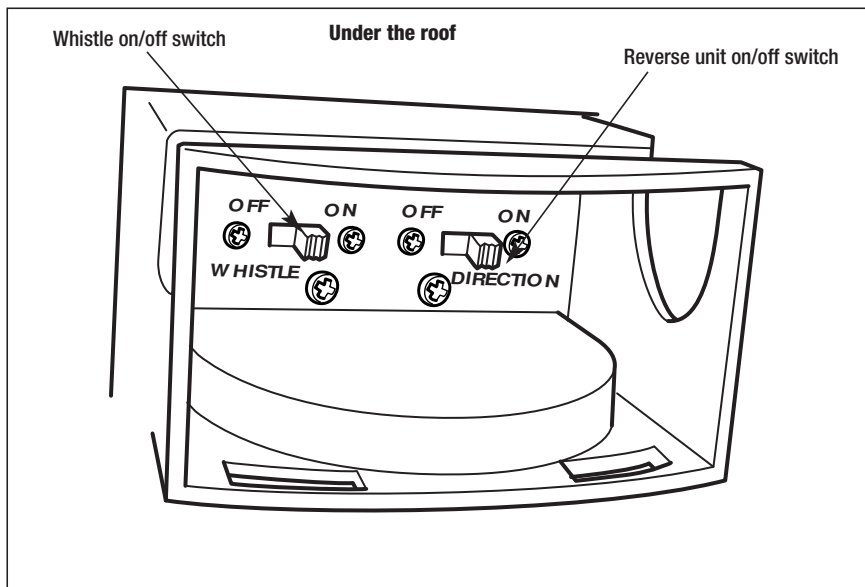

Figure 5. Switch locations
**P**ress the WHISTLE button on your controller to sound the locomotive's whistle. Be sure that the whistle ON/OFF switch is in the ON position. Refer to Figure 5 on page 6 for the location of that switch.
Also, the locomotive can be “locked” into a certain mode of operation by throwing the reverse unit switch (see Figure 5). To lock your locomotive into a specific operational state, sequence the locomotive into the desired state and reduce track power without completely powering down the locomotive, then throw the switch to the OFF position. The DIRECTION button will then have no effect on the direction of the locomotive. If you would like to resume forward-neutral-reverse operation, simply throw the reverse unit switch back to the ON position.